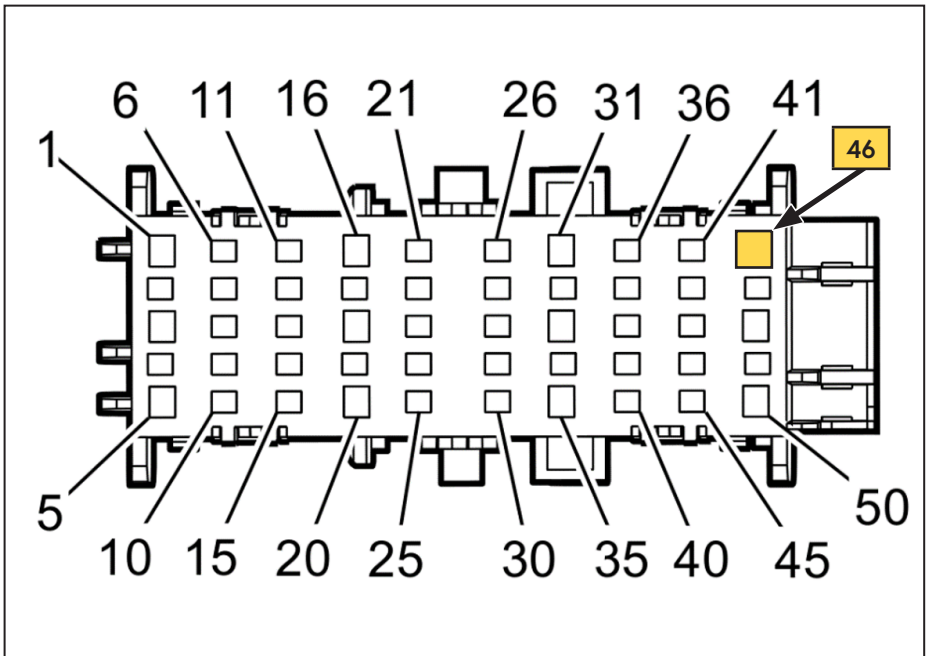

Figure 42 — Locating ignition switched power
- Locate the violet wire with white stripe running to pin 46 of the ICEM connector (Figure 42).